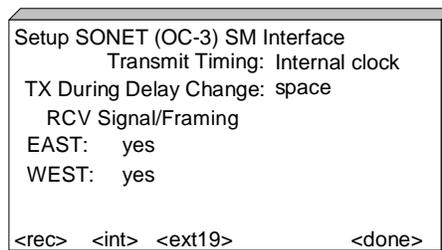

Figure 3.4 Setup SONET (OC-3 SM) Interface Screen
4. Select **SONET (OC-3) SM** and press **ENTER**. The **SETUP SONET (OC-3) SM INTERFACE** screen is displayed (see Figure 3.4).